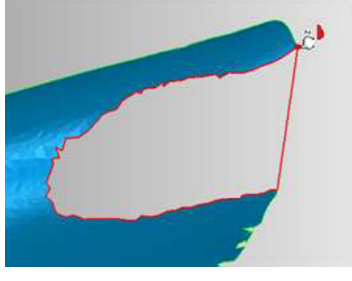

Figure 87
- Place the cursor at the other corner of the cut-out as shown in **Figure 87**.